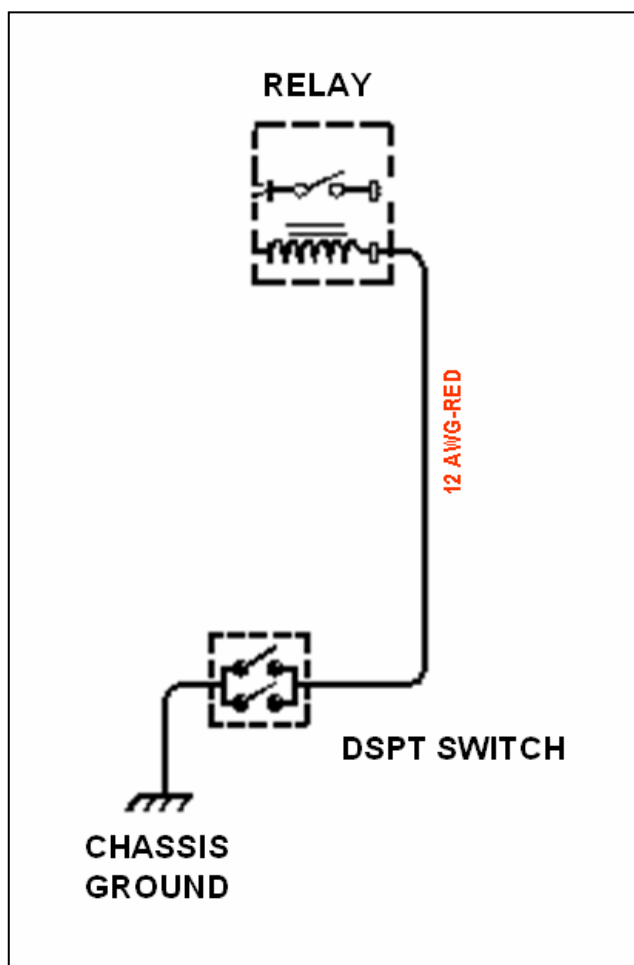

Figure 9: Carling Switch Installation
- Step 2** Route the black wire (#12 AWG) from ground connection on the Delay Timer to the vehicle chassis (see Figure 9).